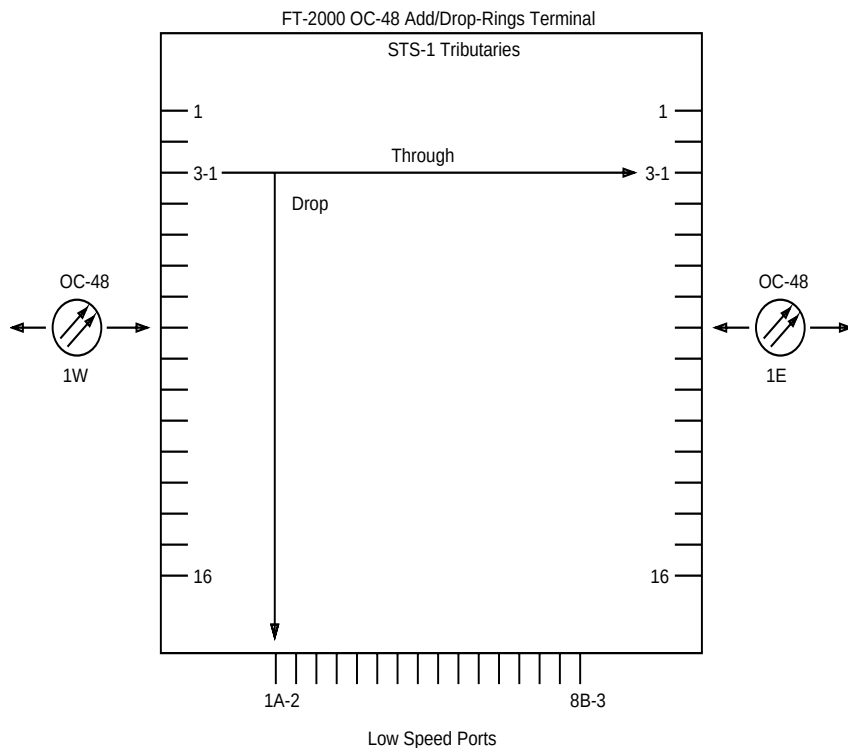

Figure 8-10. STS-1 Bridge Cross-Connections at an FT-2000 OC-48 Add/Drop-Rings Terminal
- **Bridge cross-connections:** A bridge cross-connection is two cross-connections sharing the same source. The source can be any incoming STS-1 tributary of OC-48 high-speed line 1E or 1W, or any service low-speed port. For example, Figure 8-10 shows incoming service STS-1 tributary 1 of STS-3 tributary 3 (3-1) on OC-48 high-speed line 1W cross-connected to outgoing service STS-1 tributary 1 of STS-3 tributary 3 (3-1) on OC-48 high-speed line 1E. Incoming service STS-1 tributary 1 of STS-3 tributary 3 (3-1) on OC-48 high-speed line 1W is also cross-connected to service low-speed port 2 of slot 1A (1A-2).